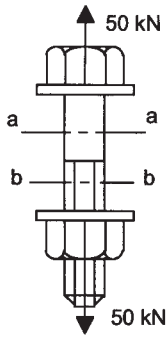

Figure 25.14 Problem 3
- 3 A steel bolt (Figure 25.14) has a diameter of 25 mm and carries an axial tensile load of 50 kN. Determine the average tensile stress at the shaft section *aa* and the screwed section *bb* if the diameter at the root of the thread is 21 mm.